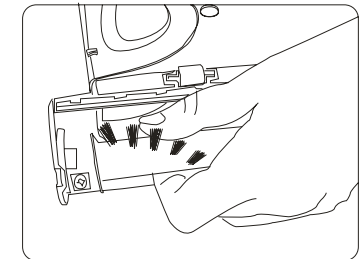

Fig. 14
6. Pull the brush bar out from the bushing and slip off the belt to remove the brush bar. (Fig. 14)
7. Insert the new brush bar by first inserting the brush bar into the bushing on the end opposite the driver belt. (Fig. 14)